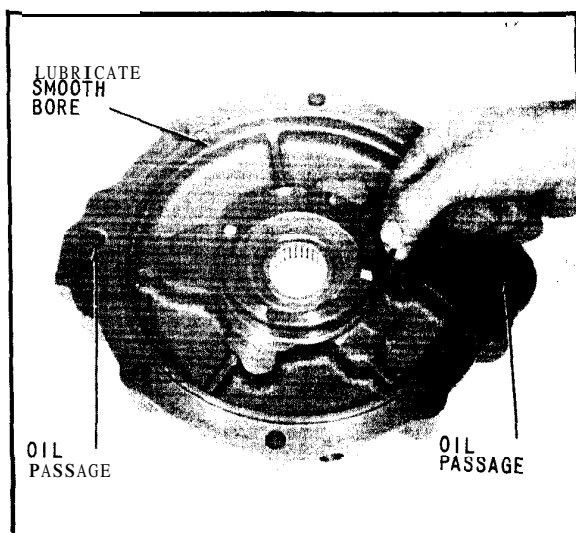

Fig. 57 Assembling Sealing Ring
50. After checking adapter for the following, place it on clean surface in position, shown in (Fig. 57).
Coat sealing ring with petroleum jelly and install in groove of adapter hub, as shown in (Fig. 57).